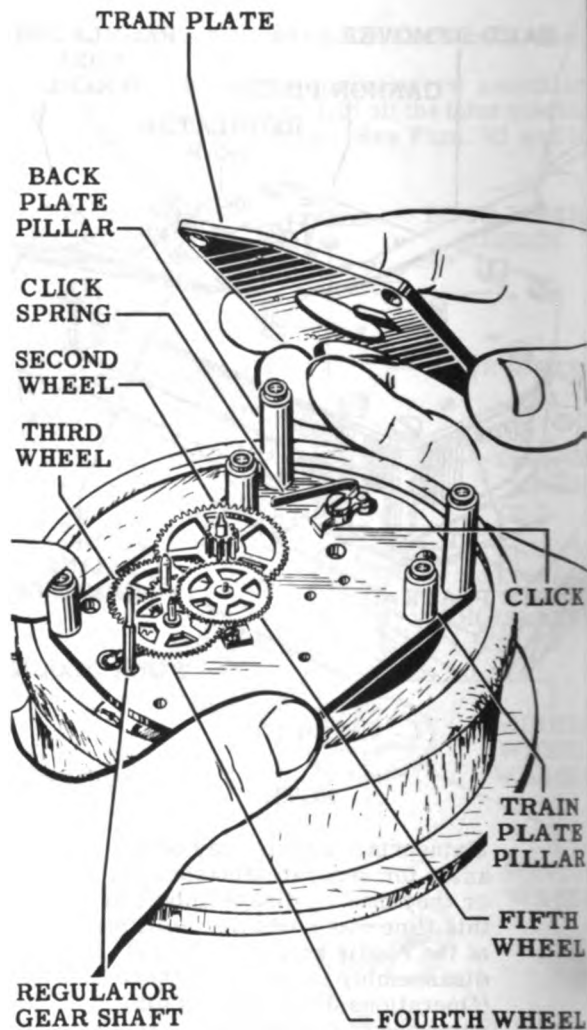

Figure 59
13. Unscrew the two train plate screws. Unscrew the two back plate pillars with the pillar pliers (Tool No. 6A) and remove the train plate as shown in Fig. 59.